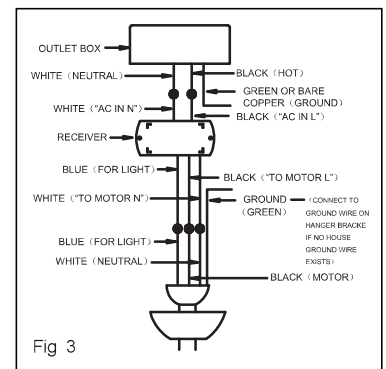

Fig. 3
Step 2. Motor to Receiver Electrical Connections: Connect the WHITE wire from the fan to the WHITE wire marked "TO MOTOR N" from the Receiver. Connect the BLACK wire from the fan to the BLACK wire marked "TO MOTOR L" from the Receiver. Connect the BLUE wire from the fan to the BLUE wire marked "For Light" from the Receiver. (Fig. 3)
Step 3. Receiver to House Supply Wires Electrical Connections: Connect the WHITE wire (Neutral) from the outlet box to the WHITE wire marked "AC in N" from the receiver. Connect the BLACK wire (Hot) from the outlet box to the BLACK wire marked "AC in L" from the receiver. Secure all wire connections with the plastic wire nuts provided. (Fig. 3)